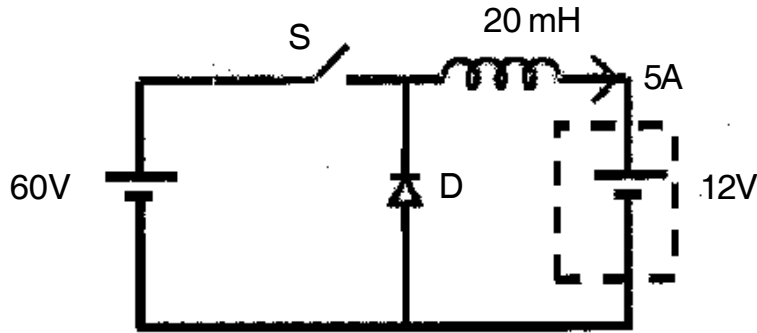

Fig.1
5. For the circuit as shown in fig. 1,  $F_s = 1 \text{ KHz}$ ,  $D = 0.2$ ,  $L = 20 \text{ mH}$ ,  $I_{avg} = 5\text{A}$ . What is the peak to peak current ripple flowing through the load ? **10**